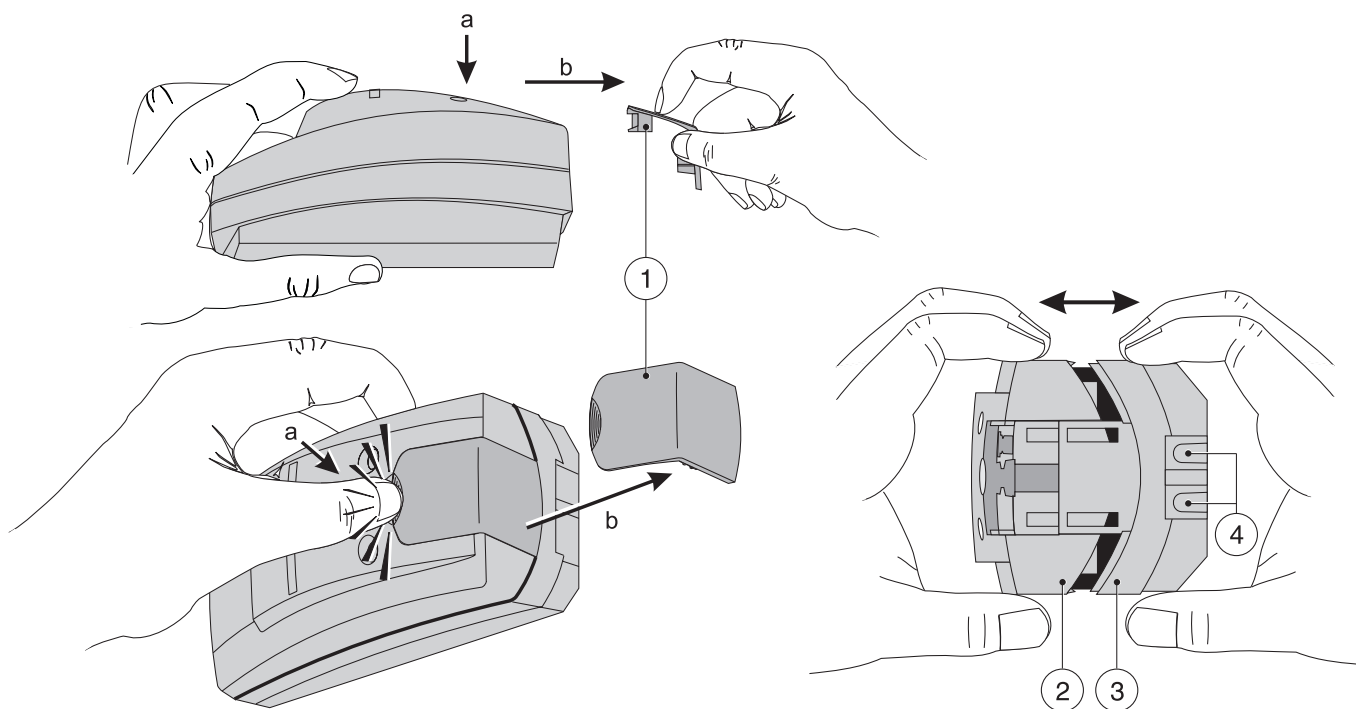

Fig. 1
- Lift off the cover plate ① as shown (a & b) (Fig. 1).
- Open the detector. (② & ③ Fig. 1).